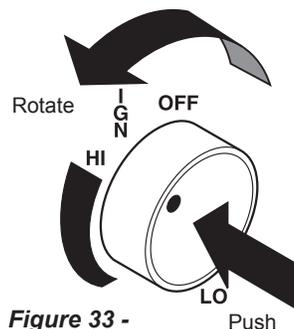

Figure 33 -
- Push in control knob and turn counterclockwise to the HIGH setting. At this location the control knob will pop out when positioned correctly. The knob can now be positioned at any position between HIGH and LOW. Figures 33 and 34